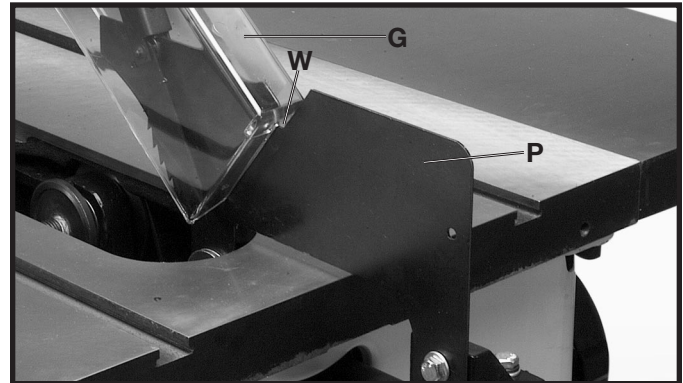

Fig. 25
10. **IMPORTANT:** The splitter (P) Fig. 25, features a notch (W) cut into the top edge. Raise the front of the clear blade guard (G) Fig. 25, until the rear edge of the guard slips into notch (W) of the splitter. This notch enables the blade guard to stay in the raised position and makes changing blades easier.